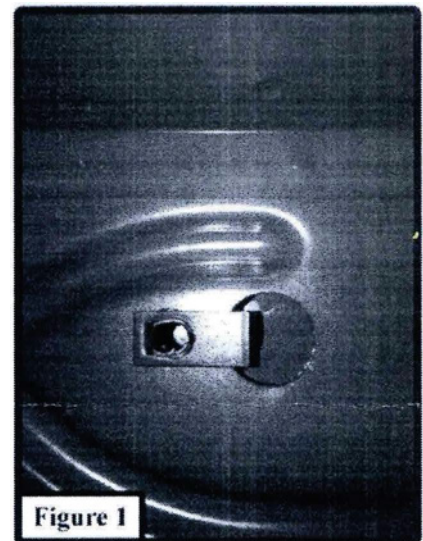

Figure 1
**STEP 3:** If your vehicle requires the use of clips install them now. This requires the removal of a plastic body plug. Using a screwdriver remove the plug and install one of the supplied clips as seen in Figure 1.